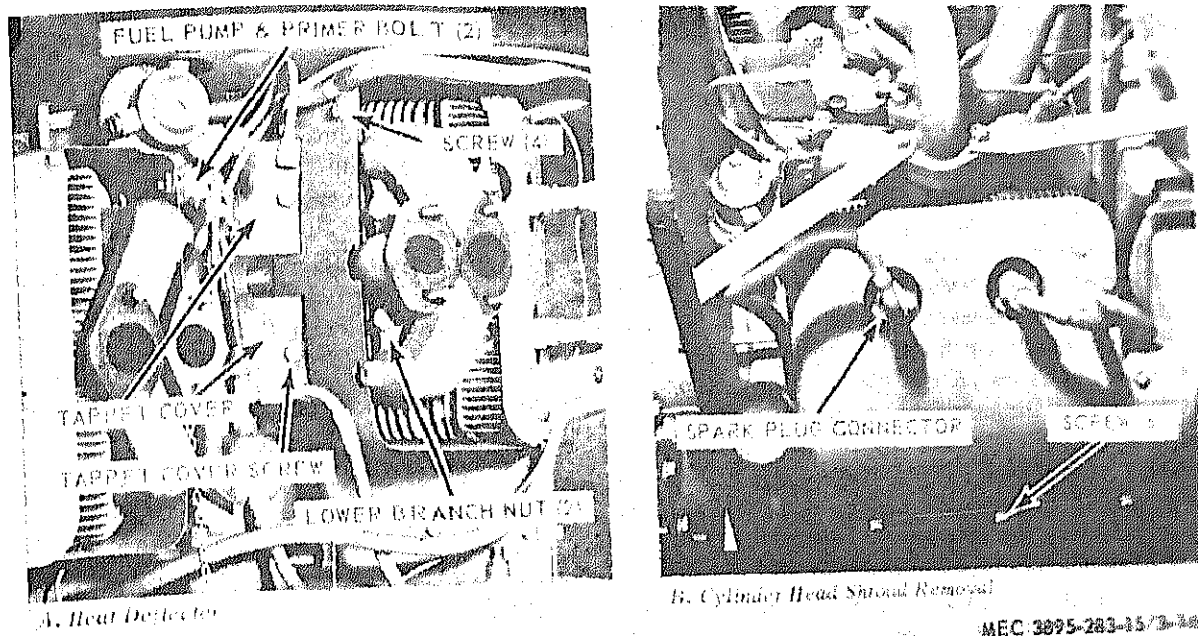

Figure 3-16. Cylinder Baffles Removal.
(a) Remove the screws holding the cylinder heat deflectors in place. (fig. 3-16).
(c) Remove the connectors from the spark plugs (fig. 3-16).
(d) Remove the screws holding the cylinder head shroud in place. (fig. 3-16).
- (3) Remove the intake and exhaust manifold lower branch as illustrated in figure 3-16.